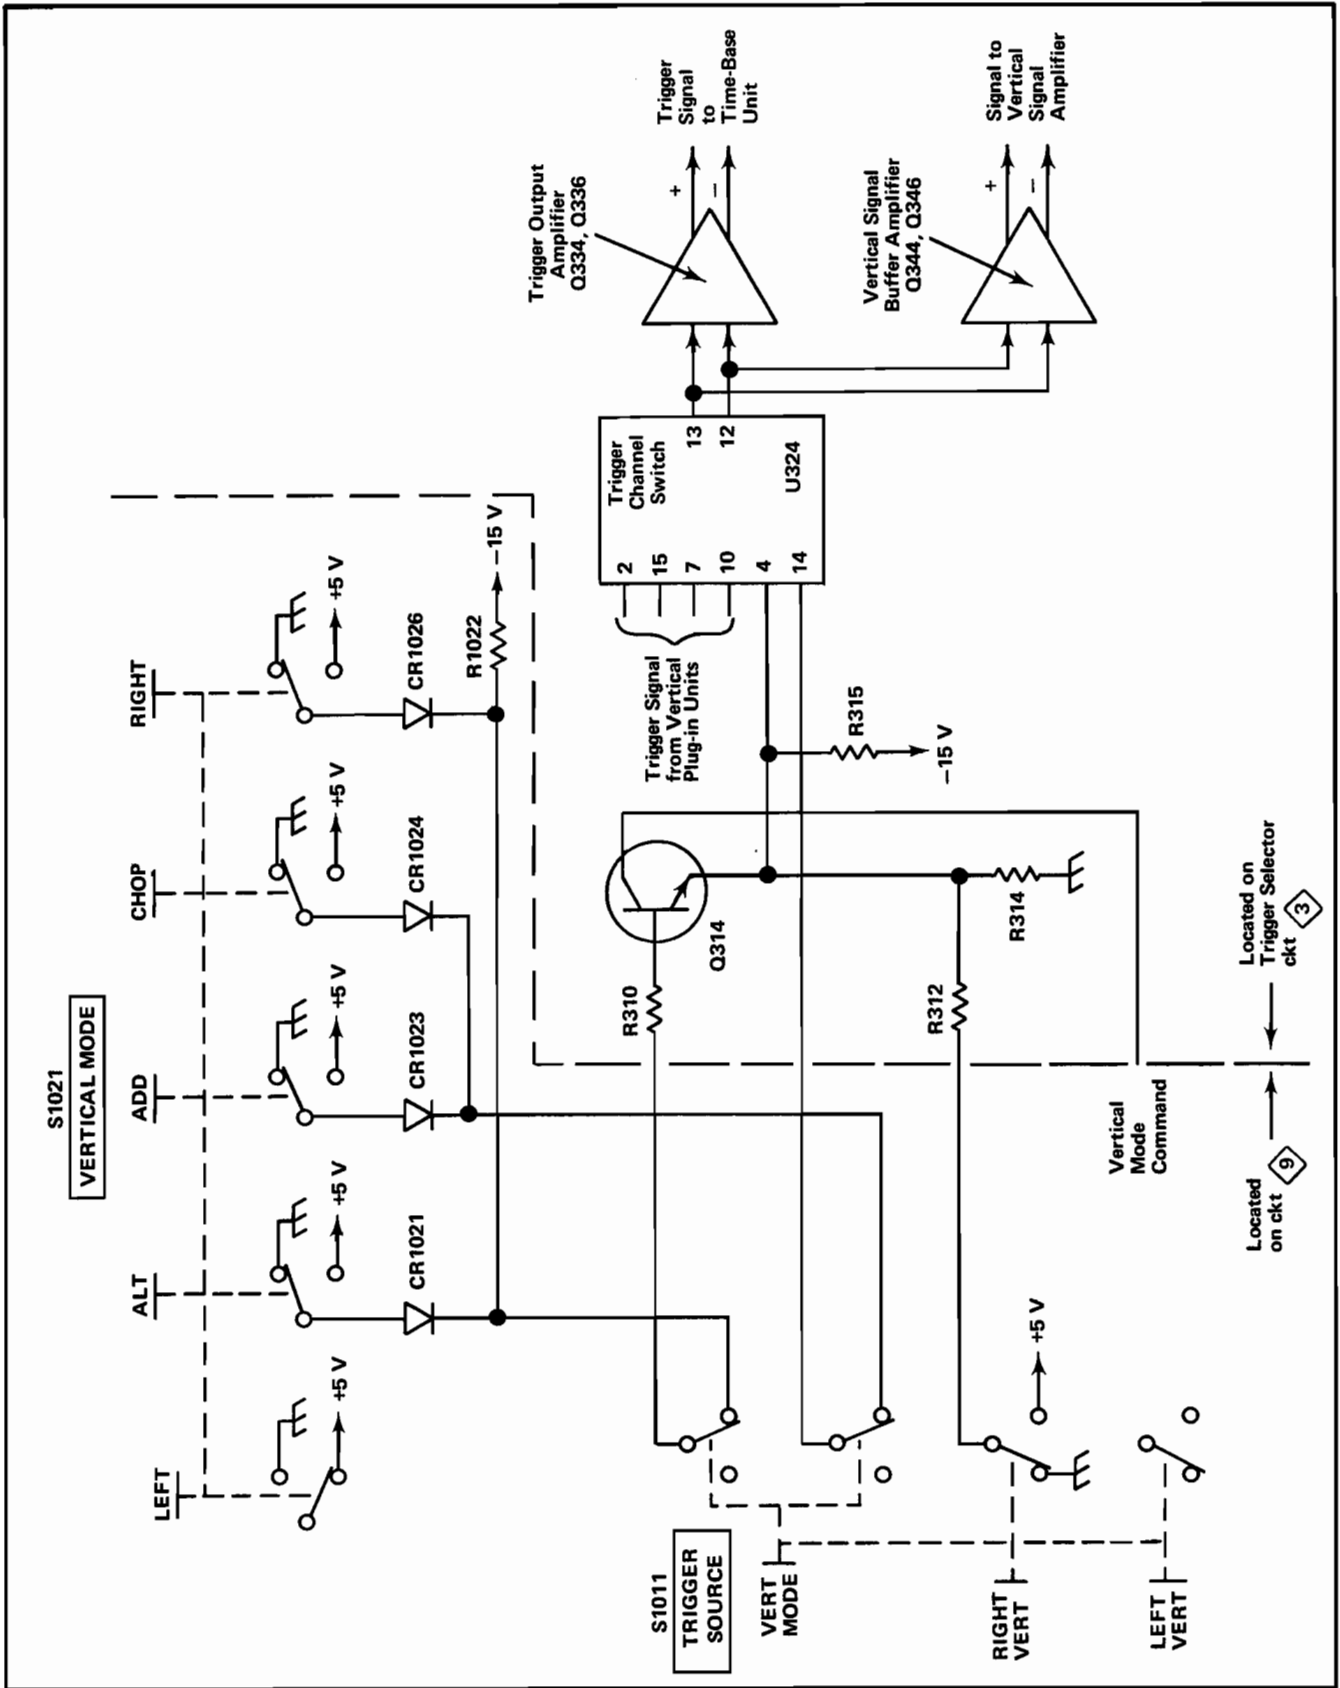

Fig. 3-16. Detailed block diagram of Trigger Selector circuit along with simplified schematic diagram of trigger source selection circuitry.
The Trigger Selector circuit determines the trigger signal which is connected to the Time Base unit as controlled by the TRIGGER SOURCE switch. This circuit also provides the drive signal for the Vertical Signal Amplifier circuit. Fig. 3-16 shows a detailed block diagram of the Trigger Selector circuit, along with a simplified diagram of all the circuitry involved in the selection of the trigger source. A schematic of the Trigger Selector circuit is shown on diagram 3 at the rear of this manual. Also see diagrams 0 and 9 for the trigger selection circuitry not shown on diagram 3.
**General.** The circuitry shown on the left side of the simplified diagram in Fig. 3-16 determines the operation of the Trigger Channel Switch stage. TRIGGER SOURCE switch S1011 controls the Trigger Channel Switch U324 through Q314. When the TRIGGER SOURCE switch is set to the VERT MODE position, the setting of the VERTICAL MODE switch determines the trigger selection. In the LEFT VERT or RIGHT VERT positions, the trigger signal is obtained from the indicated vertical unit. The following discussions give detailed operation in each position of the TRIGGER SOURCE switch.